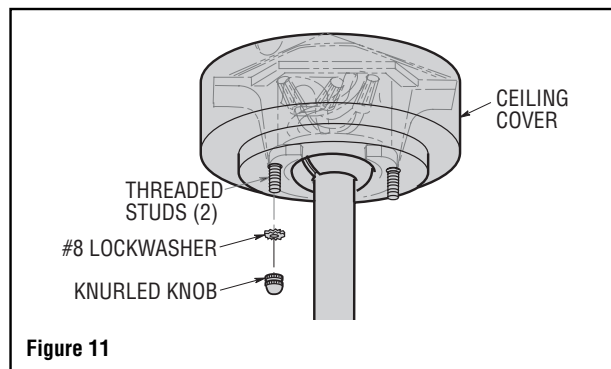

Figure 11
3. Screw the two 1-1/4" threaded studs (supplied) into the tapped holes in the hanger bracket (Figure 11).
4. Lift the ceiling cover up to the threaded studs and turn until studs protrude through the holes in the ceiling cover (Figure 11).
5. Secure the ceiling cover in place by sliding lockwashers over the threaded studs and installing the two knurled knobs (supplied) (Figure 11). Tighten the knurled knobs securely until the ceiling cover fits snugly against the ceiling. Your fan is now wired to be turned on and off from the wall switch.